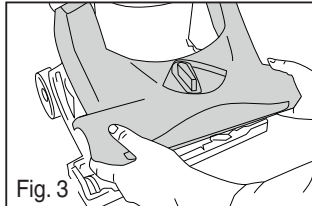

Fig. 3
- Press power switch to turn vacuum on (I) (Fig. 3).
- Squeeze and pull cover off air path selector knob (Fig. 3).
- Reinsert air path selector knob. Snap on cover (Fig. 3).
- Lift off brush roll cover. (Fig. 3).
- Replace brush roll cover (Fig. 3).